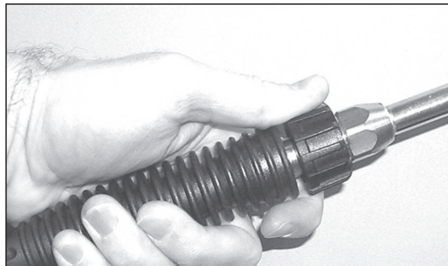

Figure 14 - Attach lance to gun
6. Attach the lance to the gun (See Figure 14).